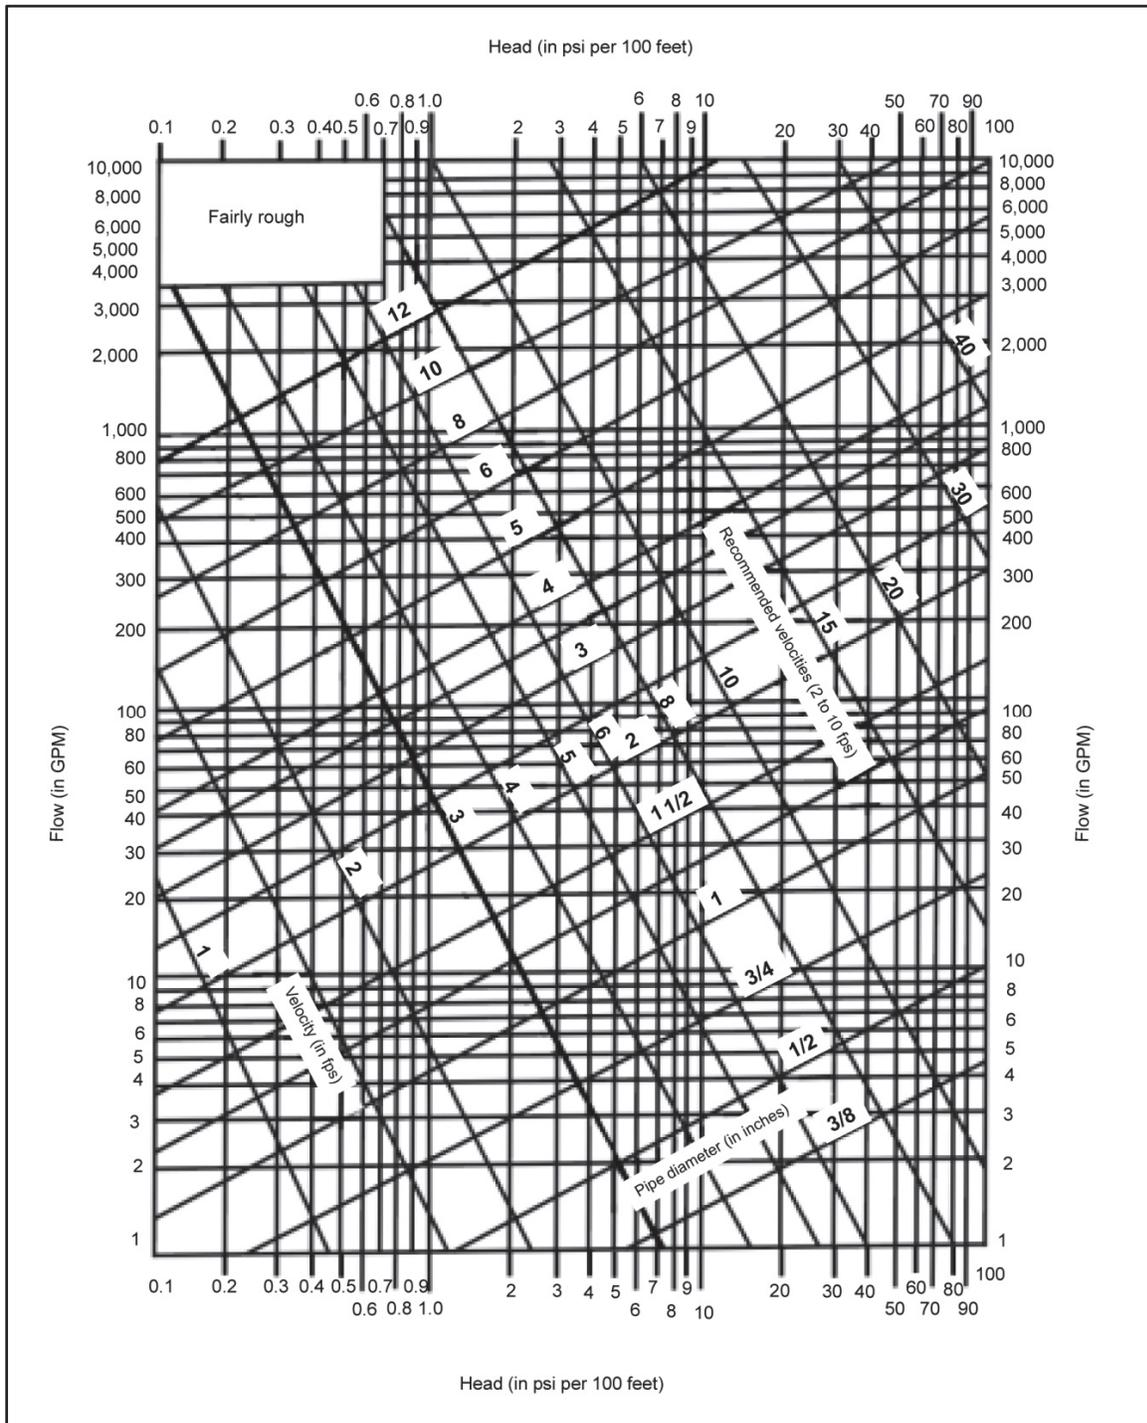

Figure D-3. Friction loss, fairly rough pipe
Step 5. Select a 6-inch diameter pipe and a velocity of 2.6 fps (intersection of selected pipe and Q). See figure D-3, page D-9.